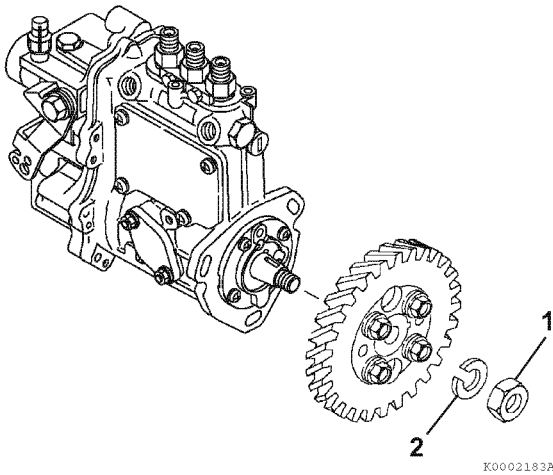

Figure 7-18
5. Reinstall the fuel injection pump drive gear lock washer (**Figure 7-18, (2)**) and nut (**Figure 7-18, (1)**). Do not lubricate threads of the nut or shaft. Hold the crankshaft pulley bolt with a socket wrench and tighten the drive gear nut to the specified torque. See *Special Torque Chart* on page 7-6.